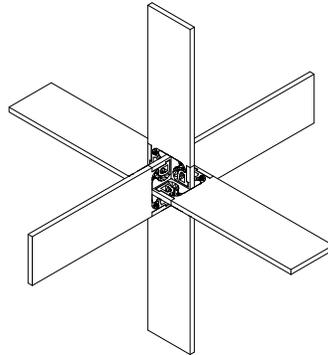

Figure 7
- 2.3 Create a fix snap connection between the slotted assemblies and each of the 6 legs. Figure 7 demonstrates both slotted connections at the assemblies and snap or friction fit connects from the legs. "Don't forget to create a connection with your partner at this point before creating a cut sheet."